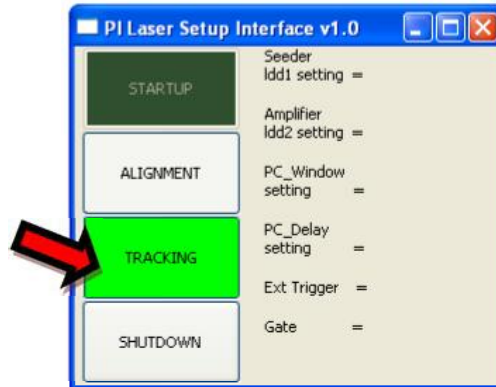

Figure 3-32: PI Laser interface showing that the laser in tracking mode
- c. **Once the STARTUP button has turned dark green, click on the TRACKING button** (Figure 3-32). It will light up with a bright green color when the laser is ready to begin tracking.